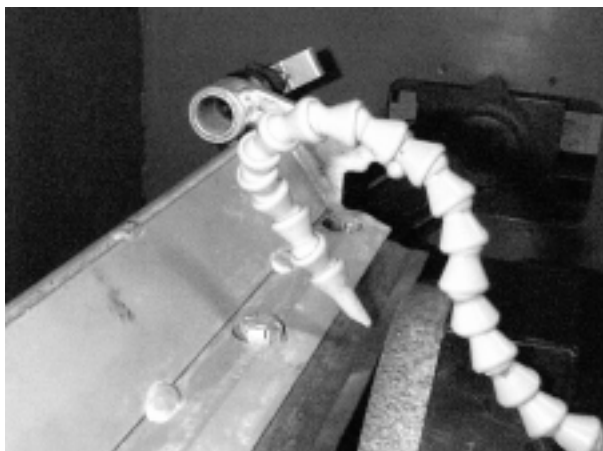

FIG. 22
2. Set the **COOLANT PUMP** switch to ON. Check the nozzle is directing coolant onto the bedknife. FIG. 22.